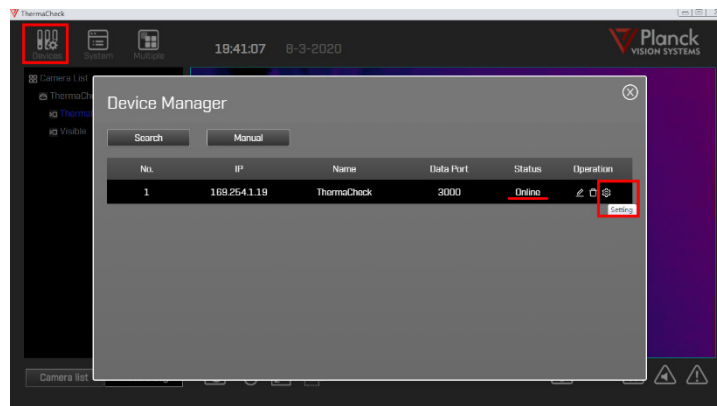

Figure 3: Device management interface
6. Open the Device Manager  in the ThermaCheck software. Confirm that the camera status is "Online" and has the default IP address of 169.254.1.19, as shown in Figure 3.